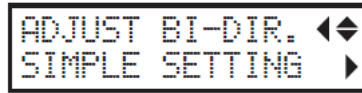

Fig 70: Selecting the SIMPLE SETTING Option
Step 5: Press the Right arrow button to select the **SIMPLE SETTING** option (Refer to Fig 70). The **SIMPLE SETTING** screen appears.